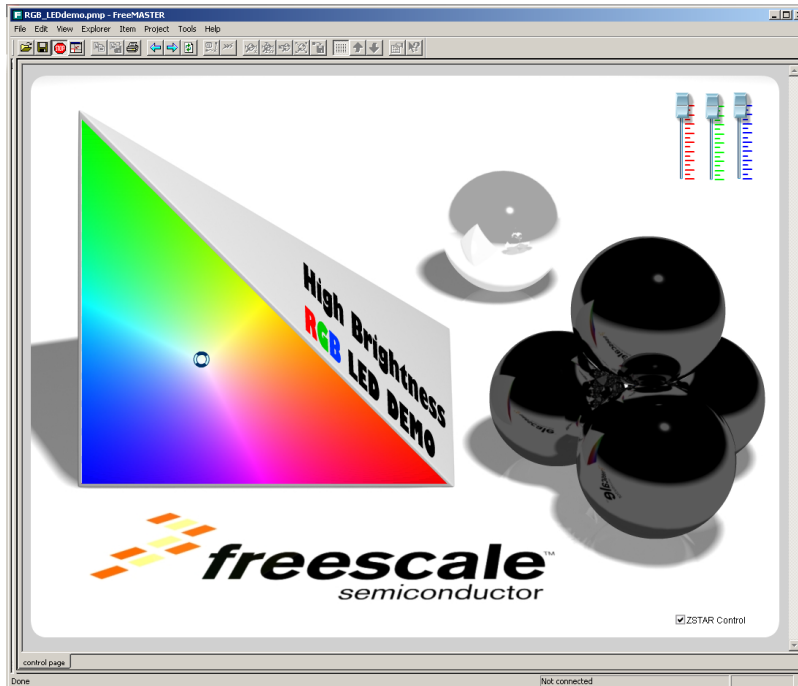

Figure 6-4. FreeMASTER Graphical User Interface Startup Window
- It is now time to run the graphical user interface program, RGB_LEDdemo.pmp, on the PC. On startup, the interface should look like Figure 6-4. To run the GUI properly, see section FreeMASTER GUI.